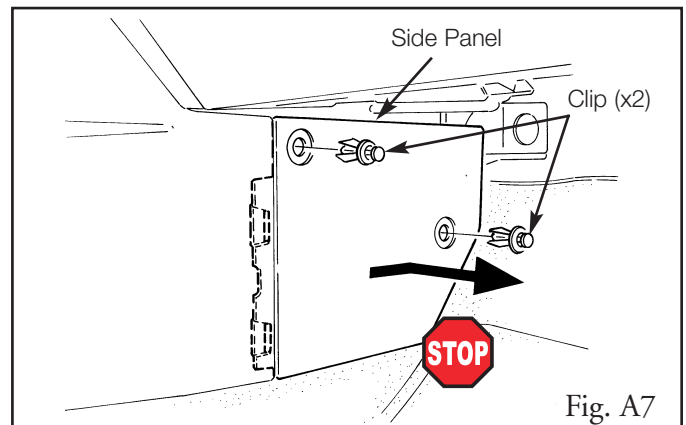

Fig. A7
7. Remove the passenger side panel. (Fig. A7)